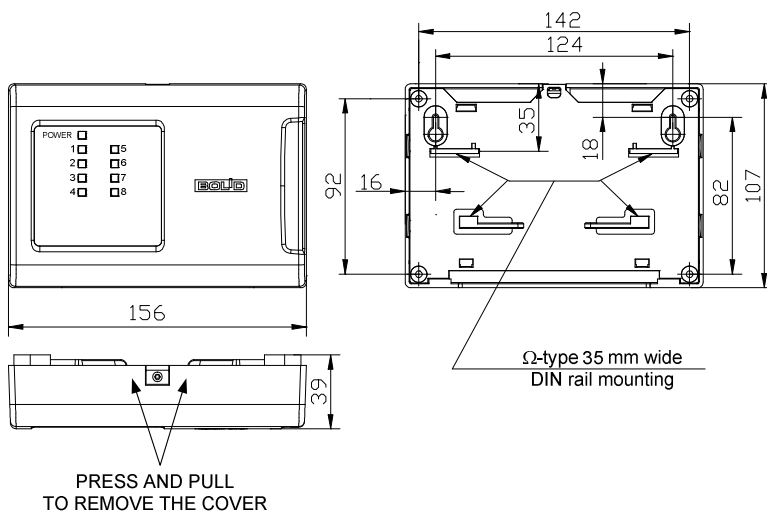

Figure 2
2.1.1 Attach the BZK in a convenient place (on a wall or other construction unit within the premises protected against atmospheric fallouts, mechanical damage, and unauthorized access). The module can be mounted on a  $\Omega$ -type 35 mm DIN rail. The overall and mounting dimensions are shown in Figure 2.